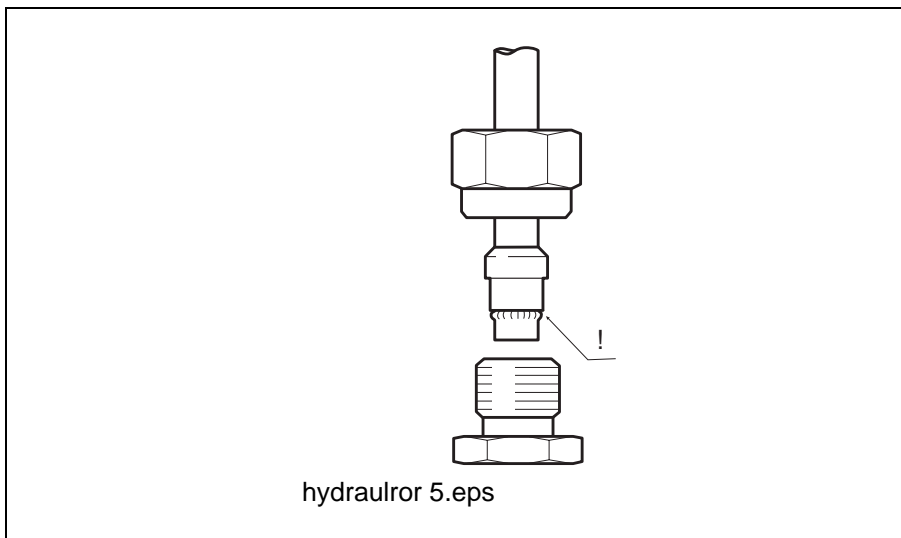

Figure 8.20 A visible swelling should have formed after tightening
6. After fitting, release the cap nut and check that the ring has pressed up a visible swelling in the area in front of it, see figure 8.20. If not, give it another short turn. It is of no importance whether the ring can still be turned.